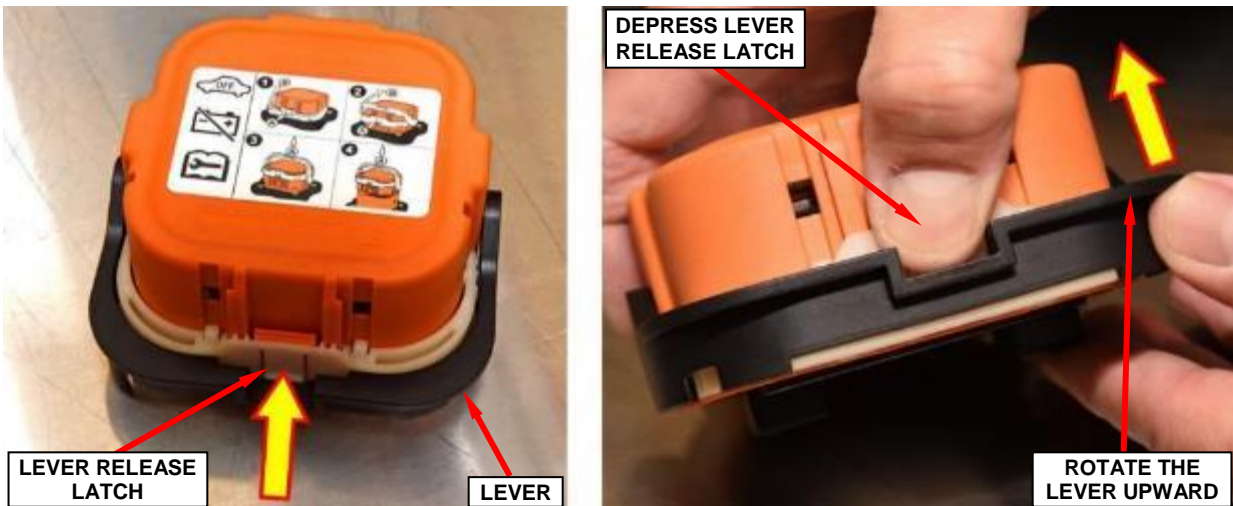

Figure 6 – High-Voltage Manual Service Disconnect First Stage Latch Release (High-Voltage Manual Service Disconnect Removed from Vehicle for Visual Clarity)
- Depress the lever release latch firmly. With the latch fully depressed, rotate the lever upward. The lever will stop at the 45° position (Figure 6).